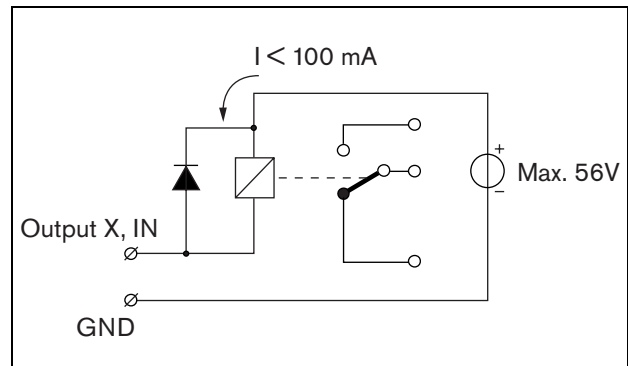

figure 21.11: Externally powered relay
- Externally powered relay. See figure 21.11 for a connection diagram.